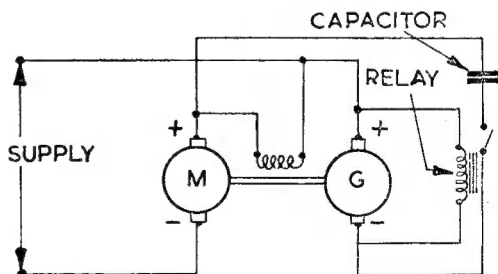

Fig. 3
L.T. winding, leaving existing field leads in position. If the L.T. winding is coupled incorrectly, the motor will be found to race, with much sparking at the H.T. brushes. So far the motor will run well on d.c., but a further modification may be made for a.c.; this is shown in Fig. 3. Calculation for one type of generator indicates that the capacitor must be about 1,000 μ F. with a working voltage of about 50 V; it may be possible to obtain a capacitor off an old induction motor for this.